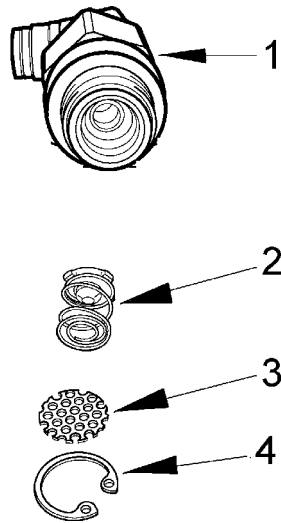

Figure 2 Remove Check Valve Parts
3. Remove check valve parts from the valve (Figure 2) by removing the snap ring.
4. Discard the check valve, screen and snap ring (Figure 2, Items 2, 3 and 4)